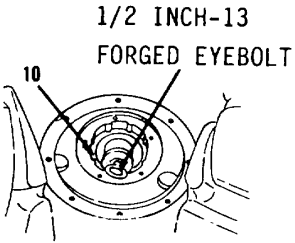

Figure 5-120.
8. Install 1/2-13 forged eyebolt in end of shaft (10, Figure 5-120) to aid in removal.